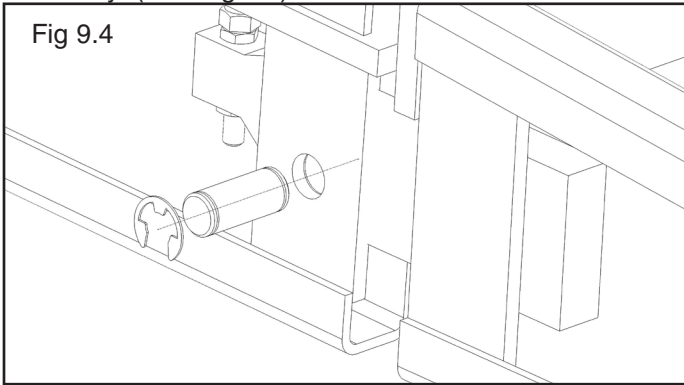

Fig 9.4
4. Place a Drive-Up Ramp Pin through each of the aligned holes to fasten the Drive-Up Ramp to the Ramp Assembly. (See Fig 9.4)